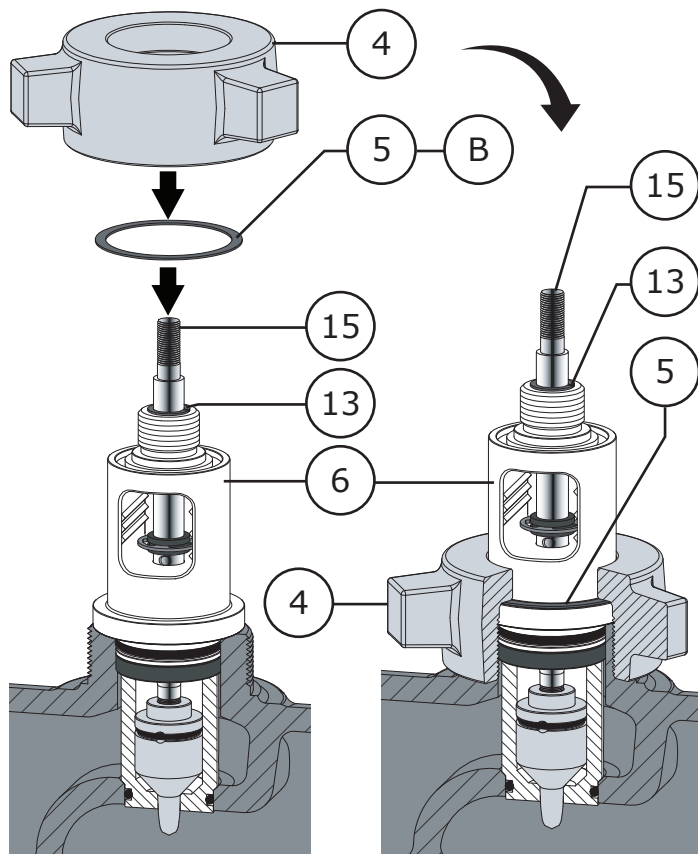

Figure 38 Bonnet Assembly Washer/Hammer Nut
- 9** Apply Permatex® Nickel Anti-Seize (Key A) to both sides of the bonnet washer (Key 5) and slide it over the bonnet (Key 6) so that it sits as shown in Figure 38.
- 10** Carefully slide the hammer nut (Key 4) over the valve bonnet (Key 6) so that it rests on top of the bonnet washer as shown in Figure 38.